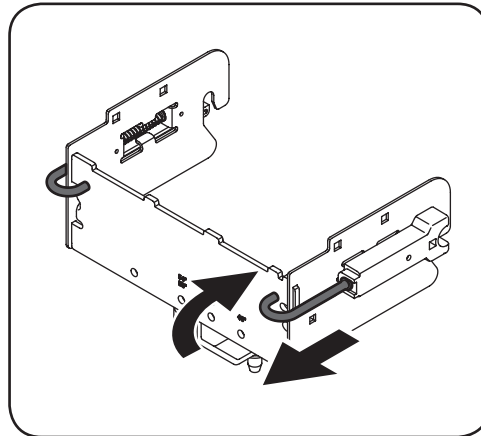

Figure 4-4
2. Pull back j-pins and lock open by twisting them inward slightly and letting them rest on the back of the rear support bracket. See Figure 4-4.